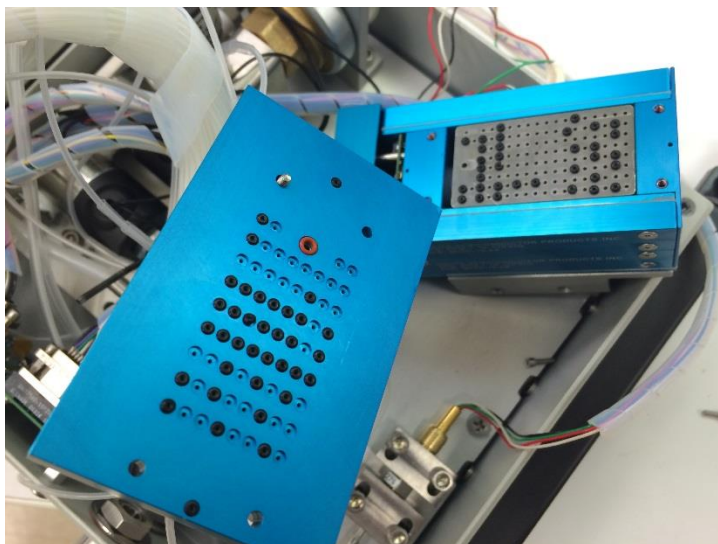

Figure 8: Replacing O-rings
Step 2: Remove top plate and replace all O-rings using appropriate O-ring that has been properly lubricated (See Figure 8). It is very important the no O-rings fall into KMPS-1 body.